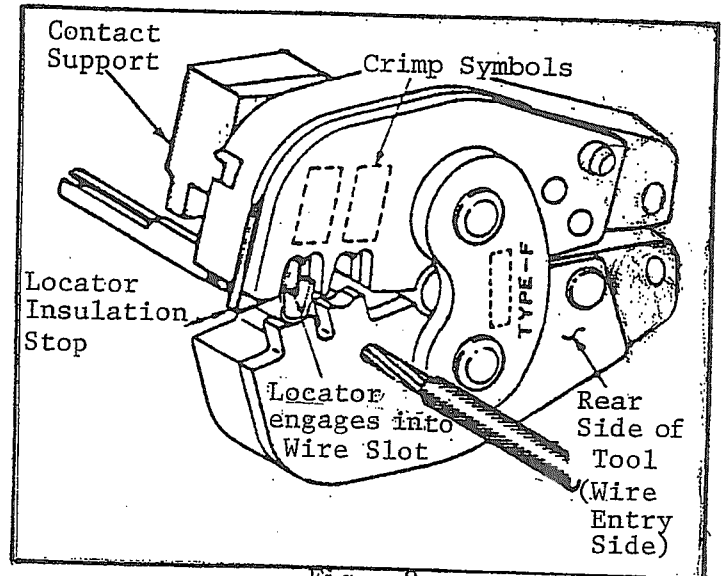

Fig. 2
- 2) Hold the contact with crimping dies in position where contact's locator slot can be inserted into locator-insulation stop, as shown in Fig. 2.